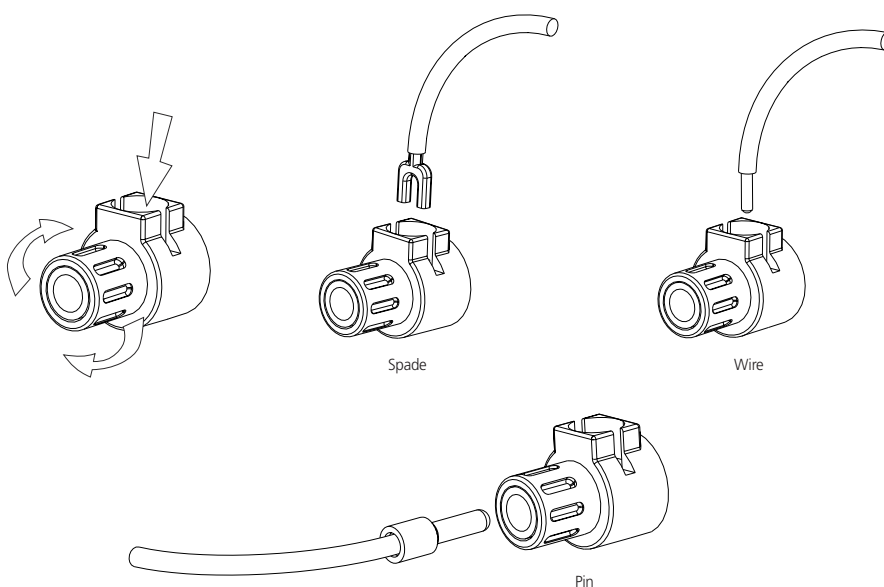

Figure 2
Connect the wires from one of your speakers to the "+" and "-" terminals on the rear panel of the NAD CI-series amplifier. In each channel, the red terminal is the positive "+" output, and the black terminal is the negative "-" or "ground" terminal (see Figure 2).
- 1 Pin connectors: A pin connector is a slim metal shaft that is crimped or soldered onto the end of a wire. The threaded shaft of each binding post contains an opening that accepts pin connectors up to 3mm in diameter. Unscrew the plastic bushing on each terminal to expose the hole in the metal shaft. Insert the pin connector through the hole, and turn the bushing clockwise until it is tight (see Figure 2).
- 2 Spade lugs: Unscrew the plastic bushing, insert the U-shaped spade lug into the oblong gap and tighten the bushing down on it (see Figure 2).
- 3 Bare wires: Separate the two conductors of the cord (if they are supplied as a pair), and strip off a half-inch (1cm) of insulation from each. In each conductor, twist together the exposed wire strands. Unscrew the plastic bushings for "+" and "-", insert the bare wire through the hole in the metal shaft, and tighten the plastic bushing until it grasps the wire securely (see Figure 2). Check to be sure that no loose strand of wire is touching the chassis or an adjacent terminal. **Re-tighten the bushing after a week or so to make sure that any play that may have developed is eliminated.**